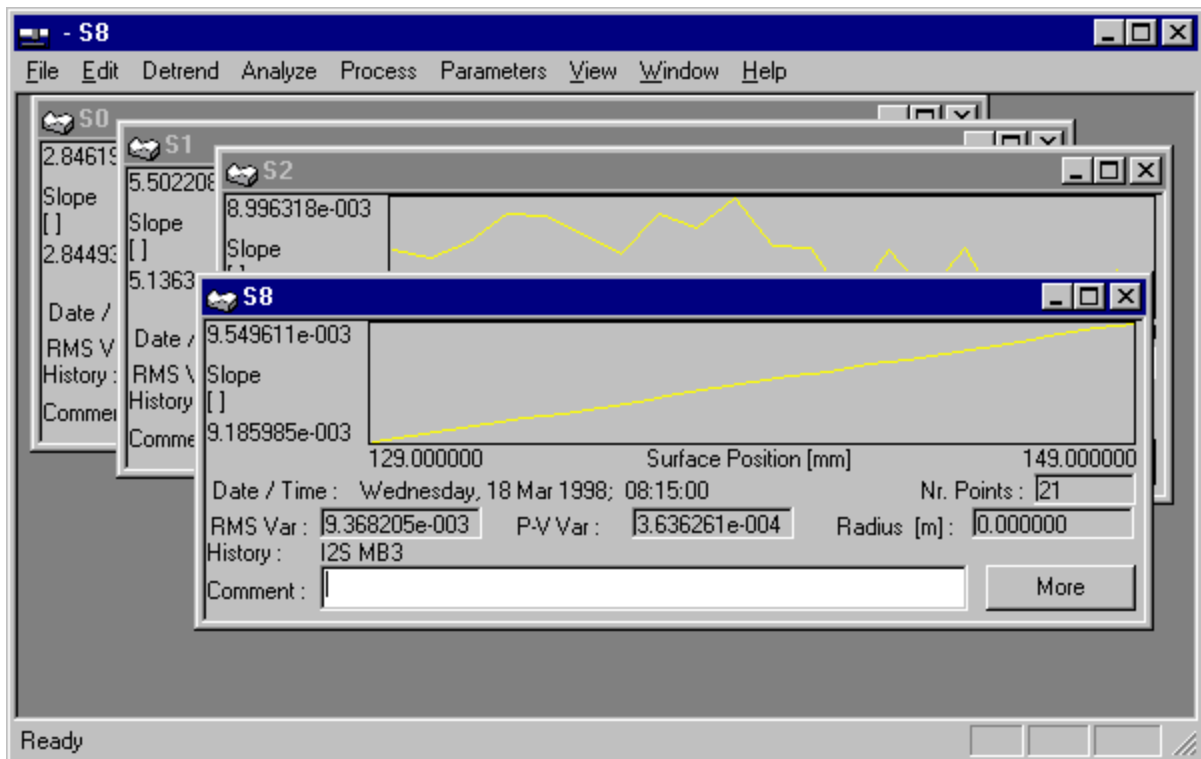

Figure 4.4 ... to give one compensated slope function.
4.4.3 Click on "OK". A fourth surface data window will appear that contains the corrected slope function. You must manually close the previous windows if you wish. See Figure 4.4.